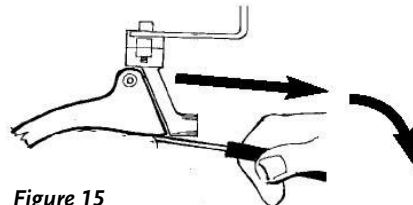

Figure 15
3. Release the Clutch Control Cable from the handle by pulling back and down (**Figure 15**).